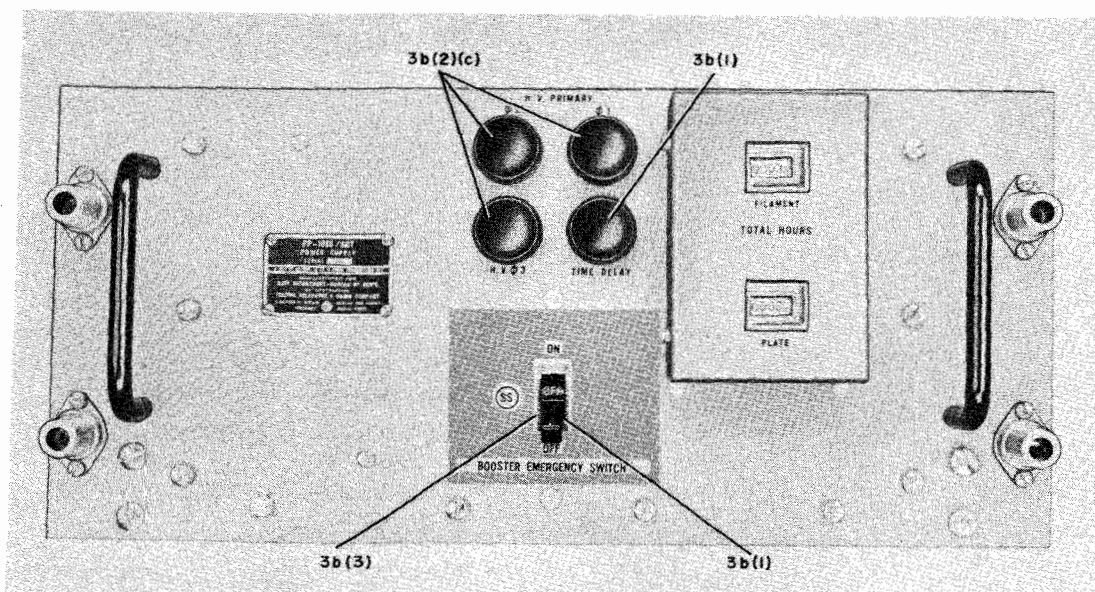

Figure 4-10. Power Supply PP-1096/SRT (High Voltage Power Supply, HVPS), Front Panel Controls and Indicators
b. POWER SUPPLY PP-1096/SRT (HIGH VOLTAGE POWER SUPPLY).—The high voltage power supply (HVPS) (figure 4-10) is a unit of the AN/SRT-15 and 16 radio transmitting sets. One control, two elapsed time meters, and four indicator lights are mounted on its front panel.